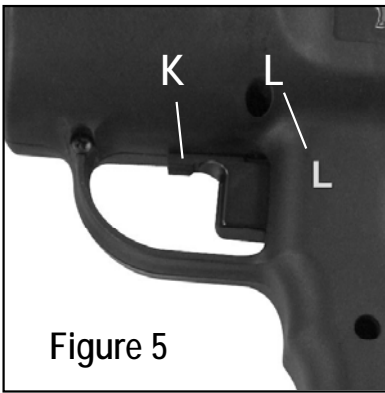

Figure 5
This impact wrench is reversible. To tighten, set the directional lever toward the "R" symbol on the right side of the handle. To loosen, switch the lever to the "L" symbol (L) on the left side of the handle. If the Trigger Locking Switch (K) is set in the middle, the unit will not turn in either direction. (Figure 5)